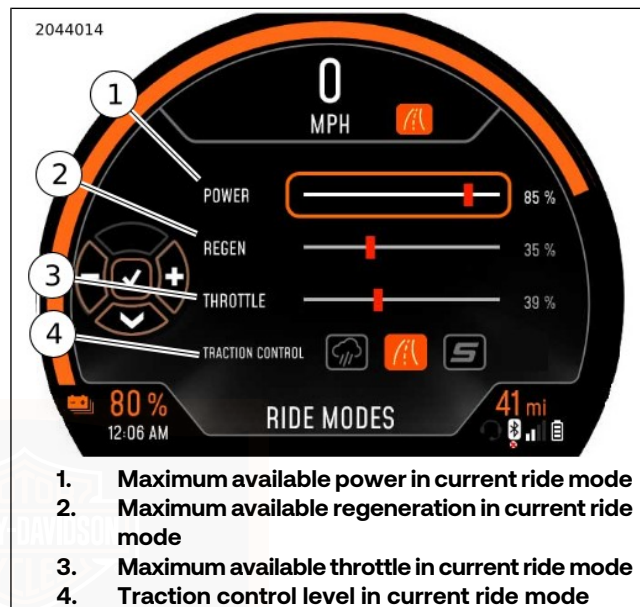

Figure 38. Ride Mode Customization
See Figure 38. The Ride Mode Customization screen displays configuration information for the custom ride modes. Configurable options include: Power - Maximum available power (1). Regen - Maximum available regenerative braking (2). Throttle - Maximum available throttle (3) Traction Control - There are four available traction control modes. These modes adjust the level of intervention for Front Wheel Lift Mitigation as well as traction control and are shown in order of decreasing intervention: Rain > Road > Sport. Decreasing intervention means more rear wheel slip during heavy acceleration and more front wheel lift allowed (4). Anti-Lock Braking - There are 2 available ABS modes. These modes are shown in increasing intervention order. Most intervention in Rain, least intervention in Road.